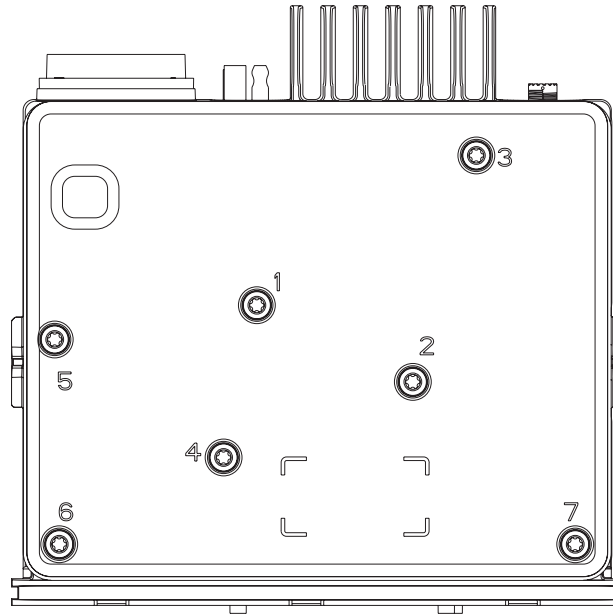

Figure 5-19. Screw Sequence to Tighten Die Cast Cover
7. Using a T20 TORX™ driver, tighten the seven screws between 2.94 N-m (26 lbs-in) in the order shown in Figure 5-19.
5. When all seven screws are secured, tighten the screws to 1.0 N-m. Refer to Figure 5-19.